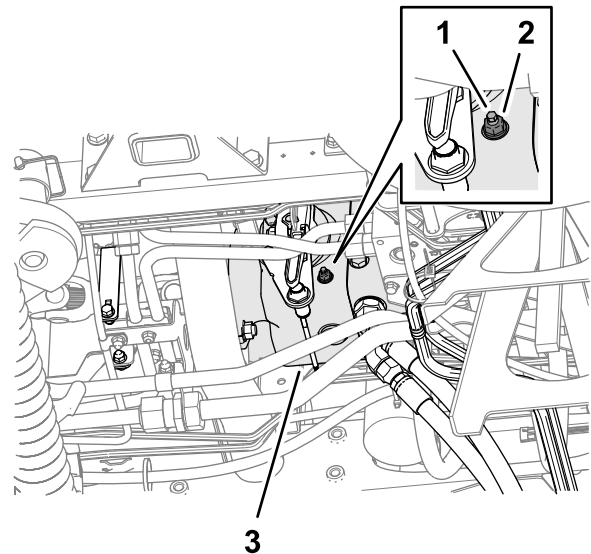

Figure 89
3. From the bottom of the machine and at the right side of the traction pump, loosen the locknut that secures the neutral return-adjustment screw (Figure 89).